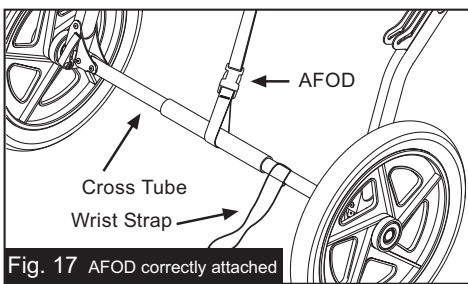

Fig. 17 AFOD correctly attached
8. AFOD: With the stroller in the fully open position (Fig. 1), attach the AFOD (Anti-Fly-Out-Device) around the cross tube with the plastic buckle (Fig. 17). It is important that the AFOD is always properly secured when using the stroller, as it is part of the child's seat restraint system. It is, however, necessary to release the AFOD in order to fold the stroller.
14. FOLDING: Remove children from stroller. Remove the contents of the Low Boy cargo pouch. Unbuckle the AFOD strap (Fig. 17). The shock absorbers must be in position 1 (Fig. 2) before folding.